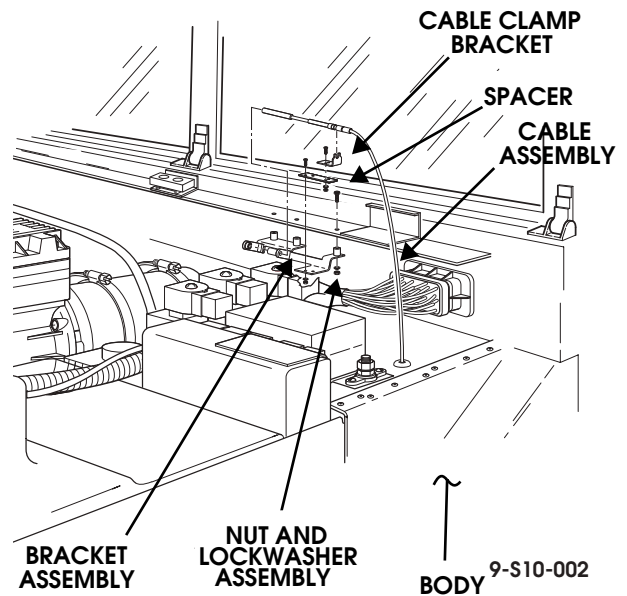

Figure 10-80: Cable Clamp Bracket Assembly Breakdown
5. Remove three nuts, lockwashers, bolts, and bracket assembly from body (Figure 10-80).
1. Insert three nylon bushings into bracket assembly, if removed (Figure 10-80).